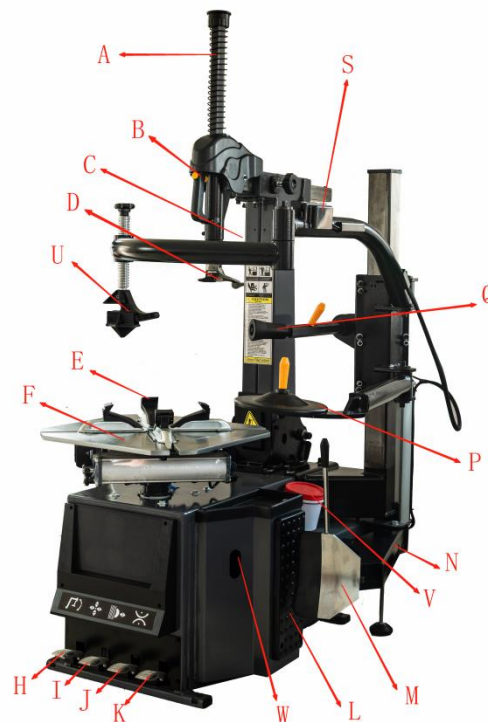

Fig.1
**Check that the equipment is in perfect condition, making sure that no parts damaged or missed. Use fig.1 for reference.**